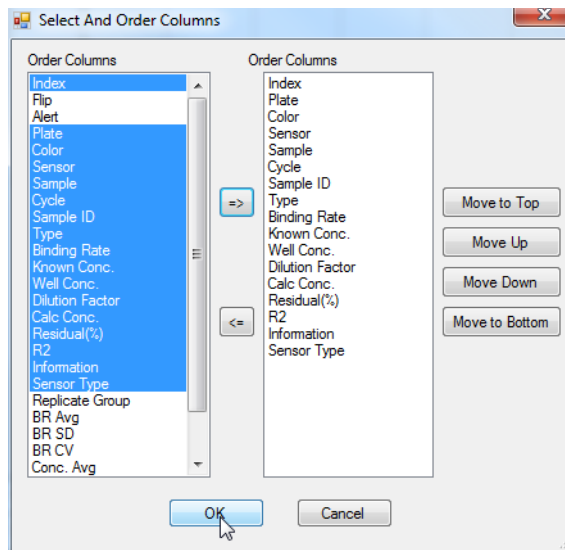

Figure 5-65: Select And Order Columns Dialog Box
2. The Select And Order Columns dialog box displays (Figure 5-65). Select and order the columns, then click **OK**.